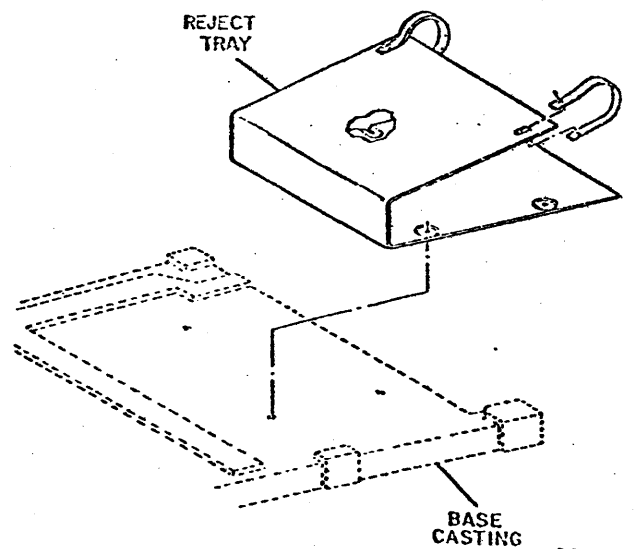

Fig. 3-109. Reject Tray
1. Remove two outboard screws (Fig. 3-109).